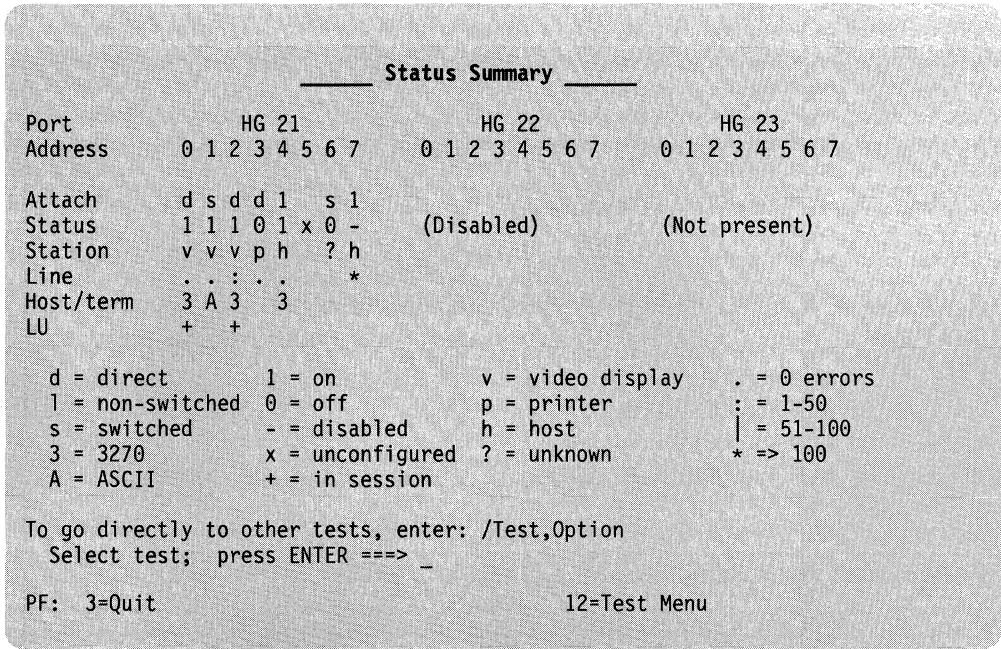

Figure 3-32. Example of a Test 12 Status Summary Panel
**Option 2:** Displays the status summary for the ASCII terminals on all three AEA HGs. See Figure 3-32 on page 3-47 for an example of the status summary panel.
**Test 12, Option 2** Figure 3-32 shows an example of a Test 12 Status Summary panel.